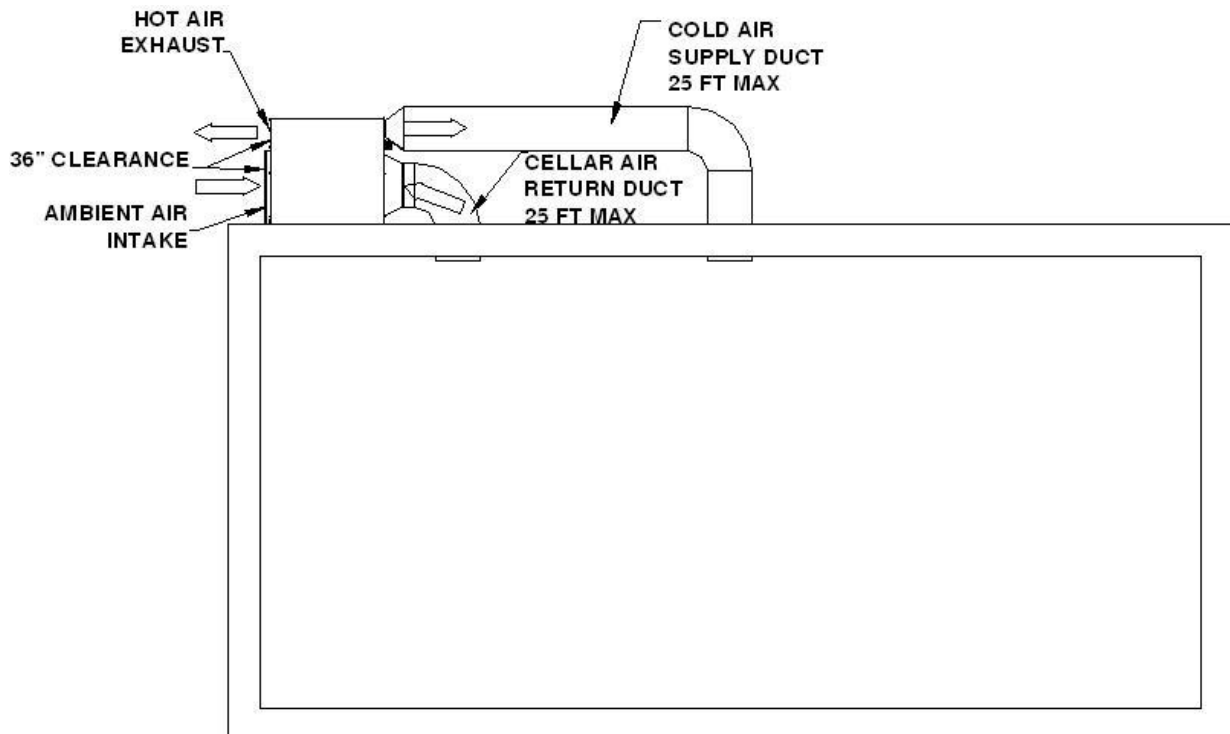

Fig. 4.8 Cold-air supply and cellar-air return ducts
5. WM-4510HZD remote-mount with cold-air supply and cellar-air return ducts (Fig. 4.8)